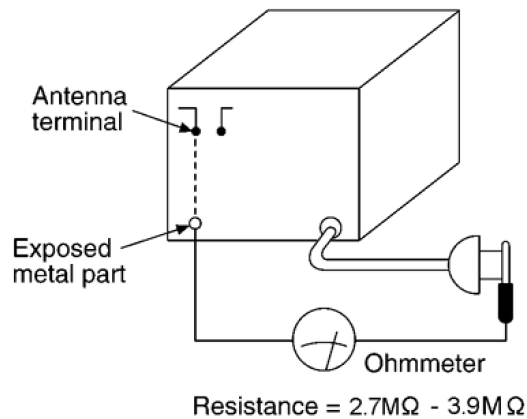

Fig.1
3. Measure the resistance value with ohmmeter between the jumper AC plug and each exposed metal cabinet part, such as screwheads, antenna, control shafts, handle brackets, etc. Measure the resistance value with ohmmeter between the jumper AC plug and each exposed metal cabinet part, such as screwheads, antenna, control shafts, handle brackets, etc. Equipment with antenna terminals should read between $2.7\text{M}\Omega$ and $3.9\text{M}\Omega$ to all exposed parts*. (Fig.1)